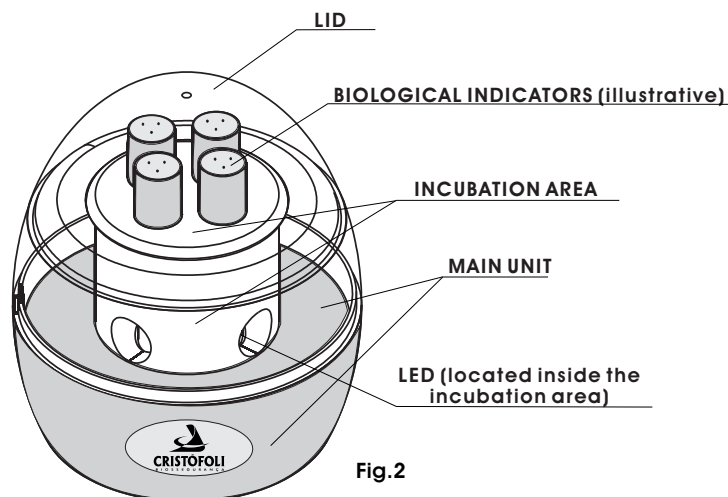

Fig. 2
- **Never** touch the incubation area (Fig. 2, page 2) during or right after using the mini-incubator. **Improper use may cause burns. Cristófoli is not responsible for incorrect procedures that may cause accidents;**
- 1► **LID** - It closes the incubation area during operation, helping to maintain the temperature stable and protect the operator from accidental burns (Fig. 2).
- **MAIN UNIT** - It is made with injected ABS plastic, white on the lower half and transparent on the top half (Fig. 2).
- **LID** - Its function is to close the incubation area during operation to maintain the temperature stable (Fig. 2).
- **INCUBATION AREA** - Screwed to main unit, it is where the indicators are inserted for incubation. It has a capacity for 4 biological indicators (Fig. 2).
- **LED** - It indicates when the mini-incubator is on, it also illuminates the incubation area, making the visualization of the results easy and clear (Fig. 2).